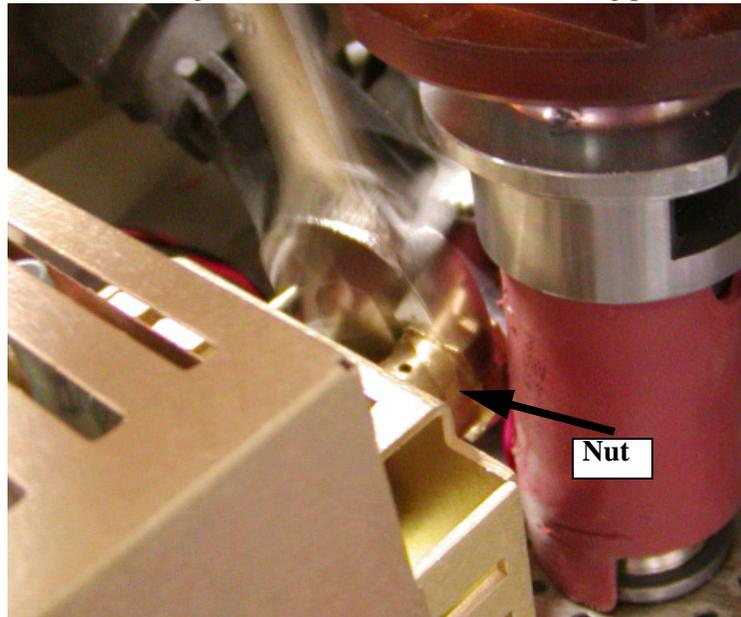

Figure 100
8. Remove the nut as shown in Figure 100. Use the Trap Alignment tool to remove the old O-ring. See the following photo for the location of the O-ring.